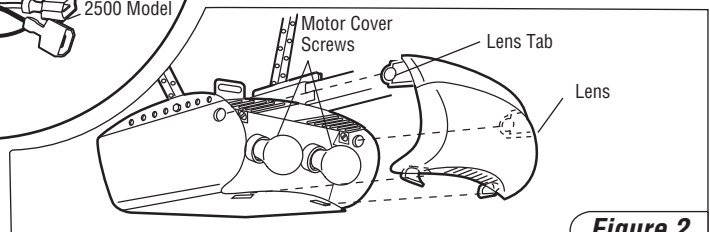

Figure 2
3. Remove light lens by gently pressing on the upper corners of the lens to disengage tabs. Remove the two cover screws. Slide cover forward to remove (Figure 2).